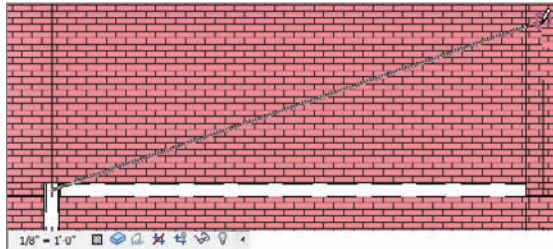

FIGURE 8.46 Adding the rod at an angle
9. Draw a diagonal bar, as shown in Figure 8.46.